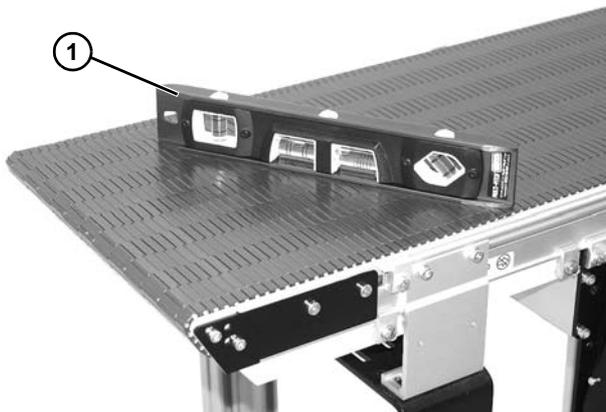

Figure 4
Conveyor *MUST* be mounted straight, flat and level within confines of conveyor. Use a level (Figure 4, item 1) for setup.